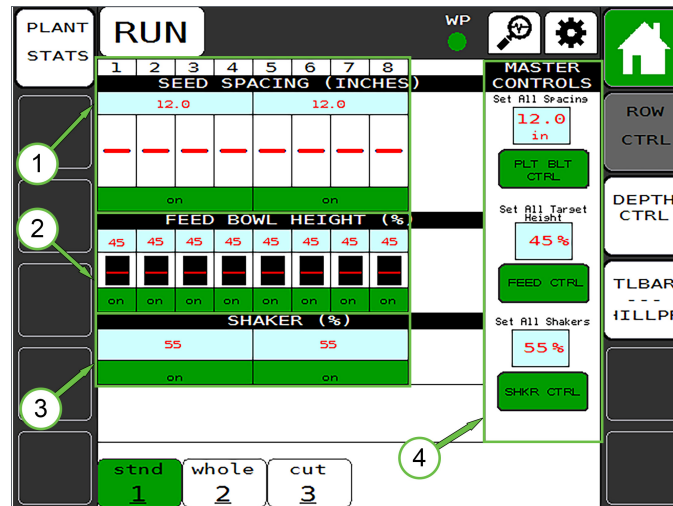

Figure 4
The Row Control function screen contains information and controls for seed spacing, feed bowl height, and shakers. (see Figure 4)
In the (6) *SEED SPACING SETUP* section, the *No Seed Detect Alarm* setting is the time equivalent of a specified number of seed pieces (in this case, 6 seed pieces) not going by the sensor. If that occurs, an alarm is triggered. The *Spacing Window* setting is the number of pieces used to calculate the rolling average for seed spacing. The *Spacing Graph Range From Setpoint* setting is the range (in inches) displayed on the Speed Spacing graph on the Row Control function screen. (see Figure 4)